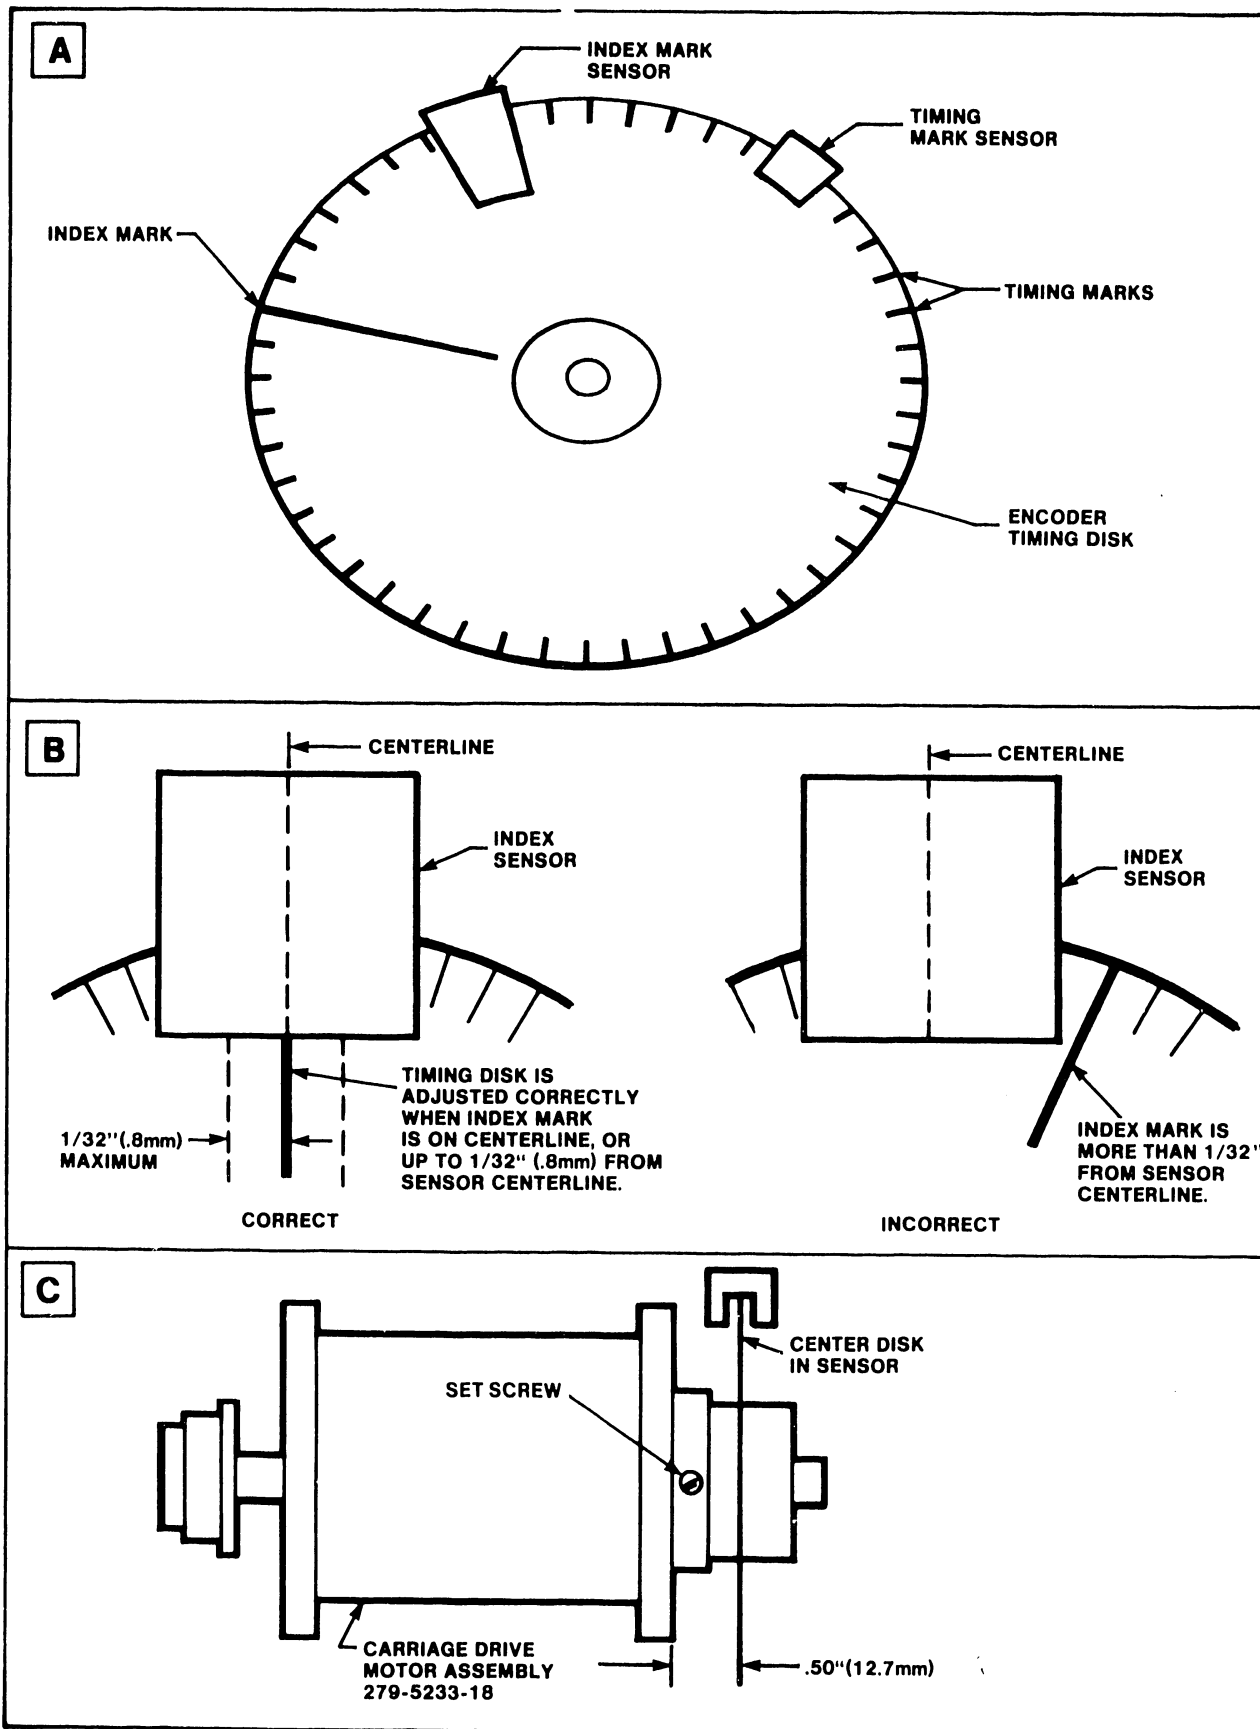

Figure 5-9 Encoder Disk
- d. Position the head carriage so that the left edge of the flag under the head carriage is $.12" \pm .03"$ (3.04mm) from the right edge of the home sensor as illustrated in Figure 5-9.